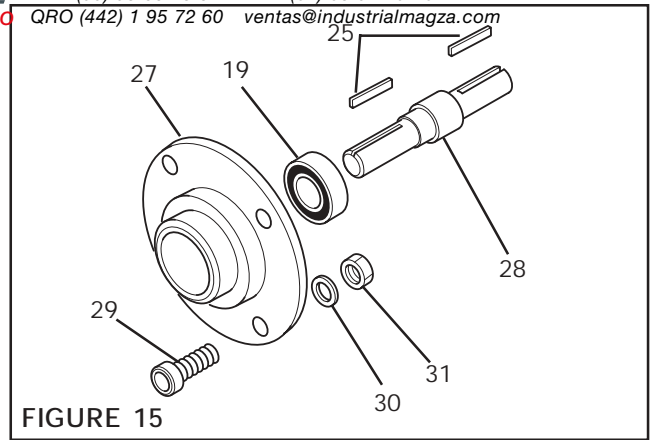

FIGURE 15
2. Fully supporting the Input Unit, press the Shaft (Item 28) out of the Input Unit (See Figure 15).
3. Using a bearing puller, remove the Bearing (Item 19) from the Flange (Item 27) (See Figure 15).
5. Apply an adequate amount of Loctite^o 680 to evenly coat the outer race of the new Bearing (Item 19) (See Figure 15).
6. Carefully align the outer race of the new Bearing (Item 19) with the bore of the Flange (Item 27) and press the new Bearing into place (See Figure 15).
7. Press the Shaft (Item 28) into the Input Unit (See Figure 15).